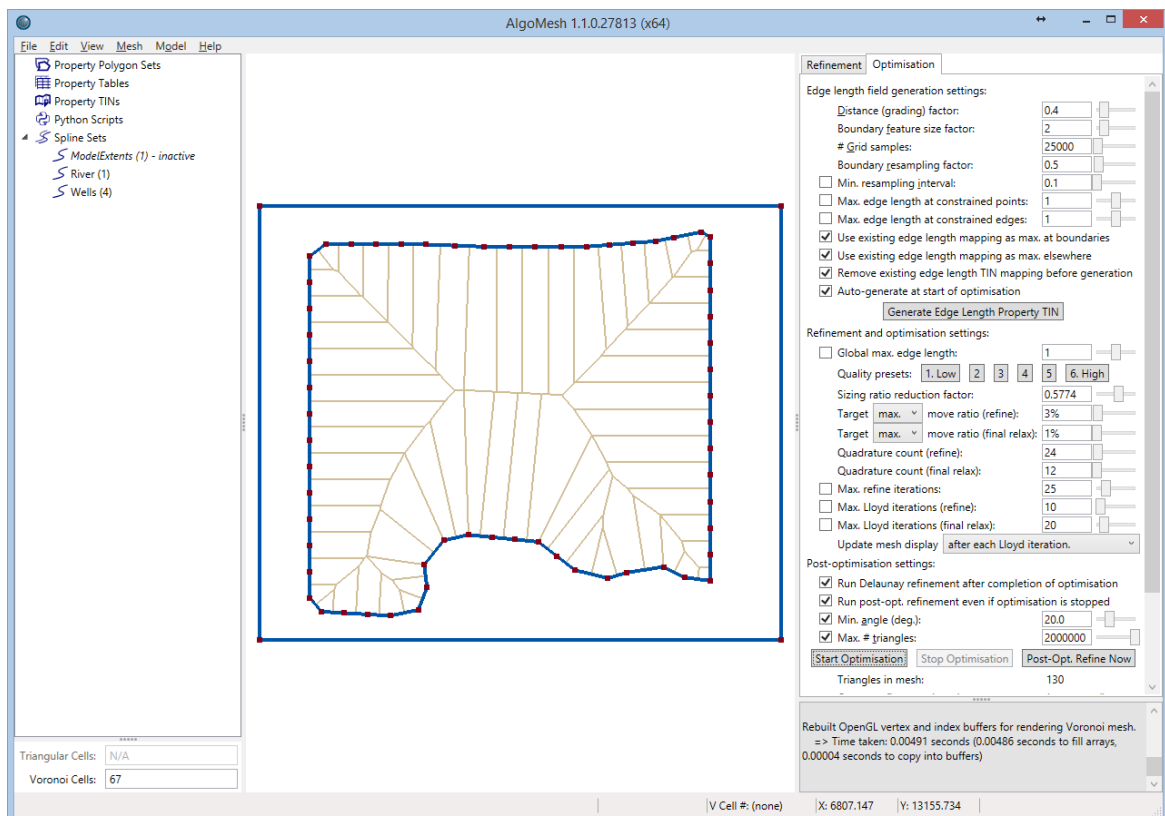

Figure 35: The initial geometry and default optimisation settings.
- In the **View** menu, turn off **Splines** so that you have a good view of the mesh you are going to generate. You will notice the river and wells disappear from the view (Figure 35), but these will be visible when they are added into the generated mesh later.